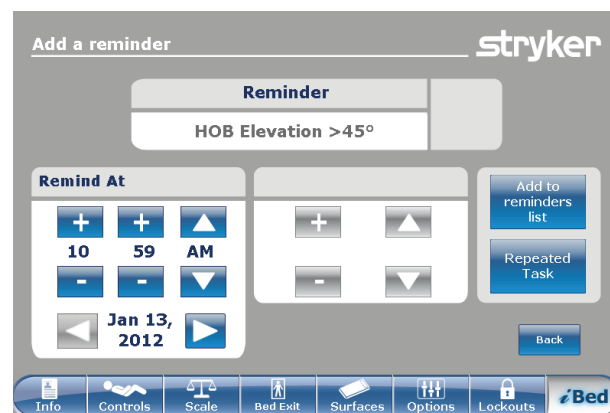

Figure 96: Setting a one-time reminder
4. Set the desired date and time of the reminder (Figure 96 on page 84).
To return to the **Reminder** screen, tap **Back** (Figure 96 on page 84).
5. Tap **Repeated Task** (Figure 96 on page 84).